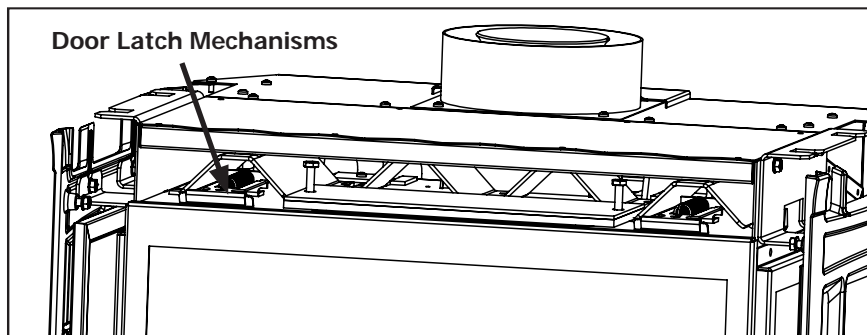
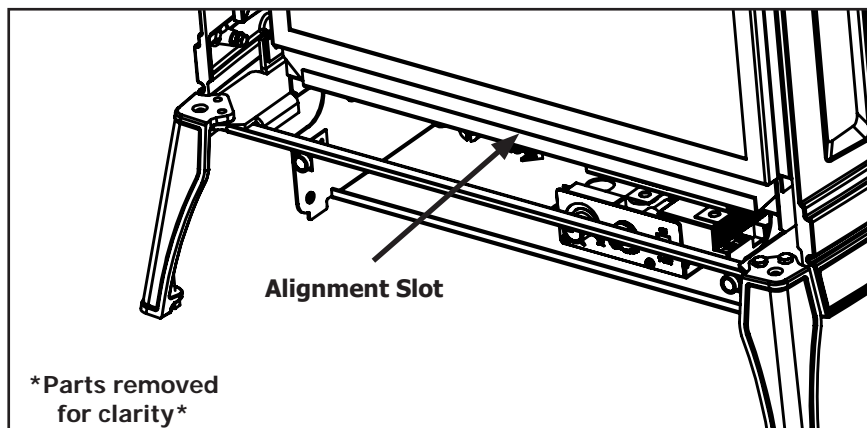

Figure 11. Top latches for glass door (cast top and door removed)
Figure 12. Bottom Alignment Slot for glass door.
In order to install the log set, and for regular cleaning, the glass door must be removed. The cabinet front must first be removed, as outlined in the section above, before accessing the door latches. There are two (2) door latch mechanisms on top the glass door as shown in Figure 11. Each latch can be pulled straight out and up by hand. When the top latches are unhooked, the door can be lifted up out of the alignment slot at the bottom of the firebox, shown in Figure 12.